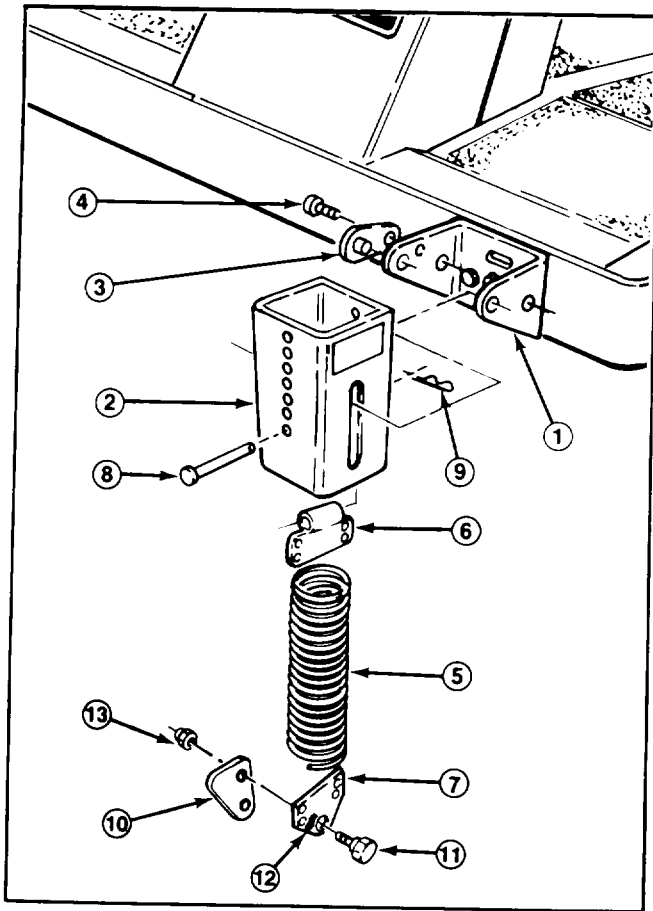

Figure 7
4. Thread the top extension spring coil into the top spring end holes and the bottom extension spring coil into the bottom spring end holes (Fig. 7).
- 1. 3/8 x 2-1/4" capscrew (2)
5. Mount knee link to lower spring end with wide part of knee link pointing forward and spring end stop pointing forward. Secure knee link to outer side of spring end with a shoulder bolt and locknut (Fig. 7, 8).
7. Align slotted holes in the spring cover (slot toward the bottom) with the mounting bracket holes. Insert lock pin assemblies into the bracket holes and secure each to the bracket with self-tapping screws (Fig. 7). Torque the screws to 20 ft-lb.
8. From the bottom, insert the spring and top spring end into the spring covers. Select a hole that matches the cutter deck height-of-cut hole setting; i.e., top cover hole matches highest height setting, bottom cover hole the lowest, etc. Align the top spring end hole with the selected spring cover holes and insert the clevis pin to secure the spring inside the cover (Fig. 7). Secure the clevis pin with the hair pin cotter (Fig. 7).